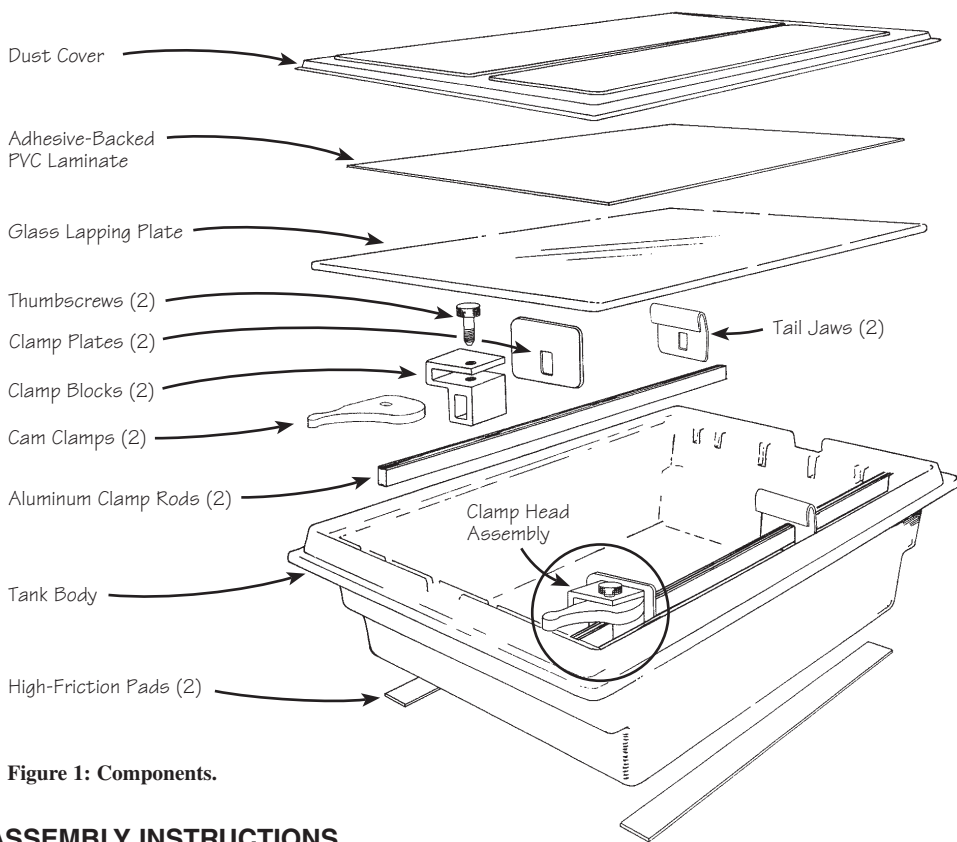

Figure 1: Components.
3. Slide a clamp block, clamp plate, and tail jaw onto each clamp rod, as shown in **Figure 1**.
5. Slip one cam clamp into each clamp block as shown in **Figure 1**, and secure with thumbscrew.